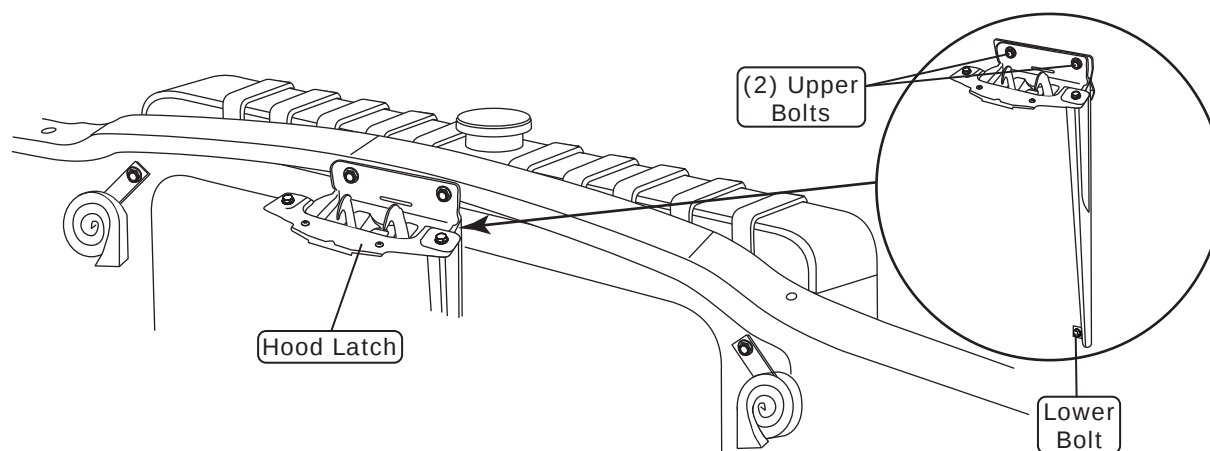

Figure 1
6. Remove the hood latch assembly by removing (3) bolts (See Figure 1, below).